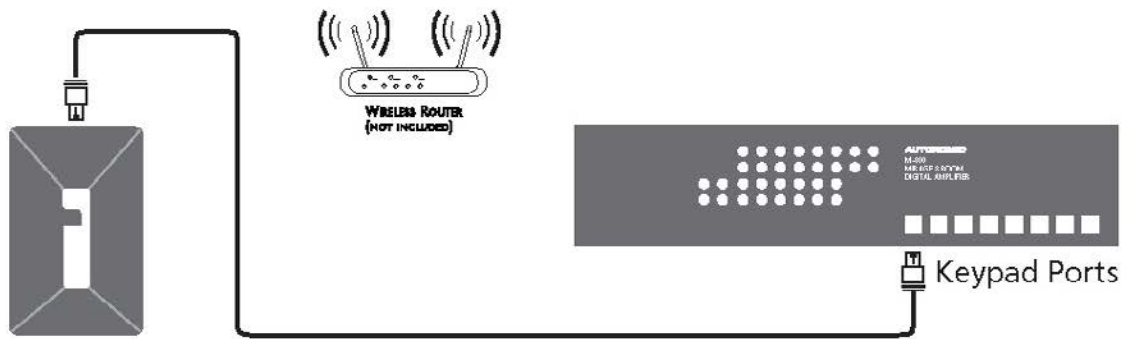

Figure 3: KP-iOS System Connection
1. Before making connections, run a length of Cat5 cable through the wall from the KP-iOS location to the location of the Mirage Amplifier, as shown in **Figure 3**.
3. Plug the Cat5 cable into the RJ-45 jack on the KP-iOS and the other end into one of the keypad ports on a Mirage M-400 or M-800 amplifier, as shown in **Figure 3**.